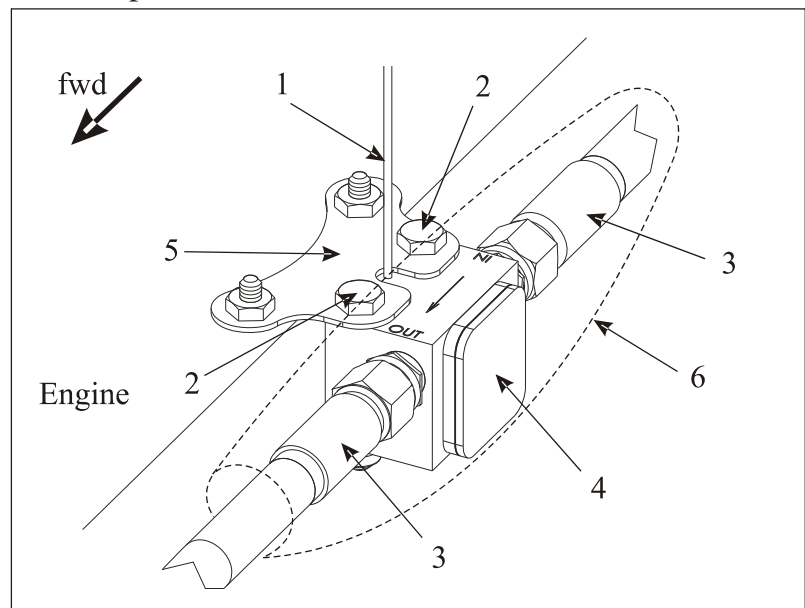

Figure 6
- 3 Remove the fire sleeve (6).
- 4 Disconnect the fuel hoses (3, Figure 6) from the transducer (4).
- 5 Disconnect the electrical wiring (1) from the transducer.
- 6 Remove the attachment bolts (2) and remove the transducer from the mounting sheet (5).